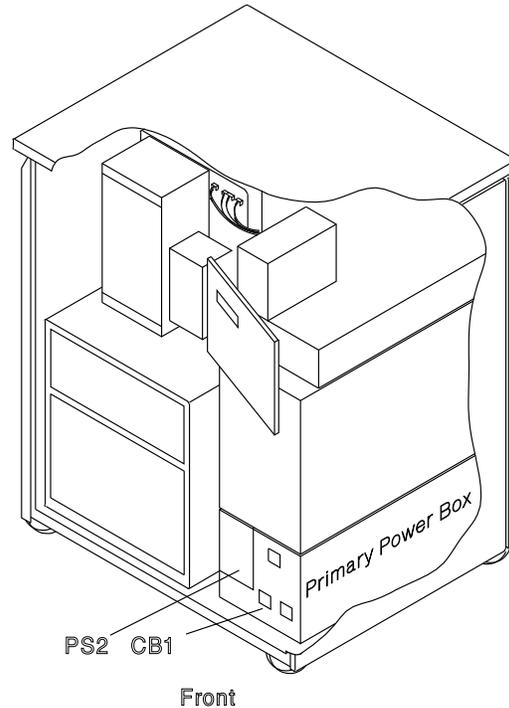

Figure 4-94. Primary Power Box, Power Supply 2, and CB1 Locations
4. **Switch CB1 OFF.** Refer to Figure 4-94.
6. Locate the PS2 and the primary power box. Refer to Figure 4-94.